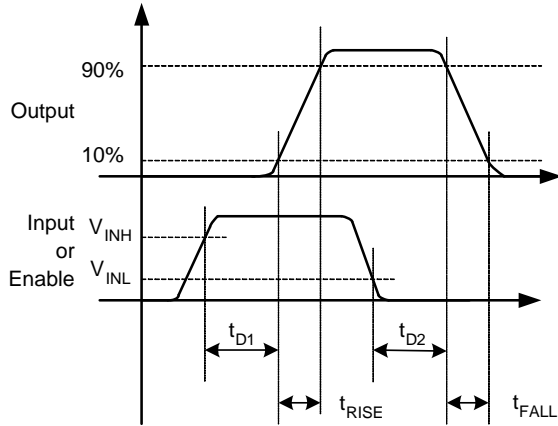
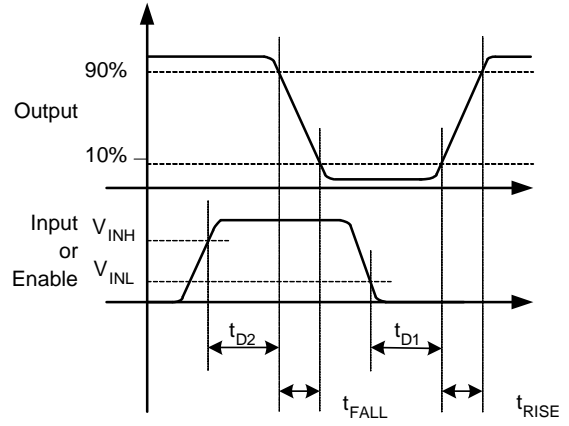

Figure 5. Non-Inverting
Figure 6. Inverting
11. See the Timing Diagrams of Figure 5 and Figure 6.